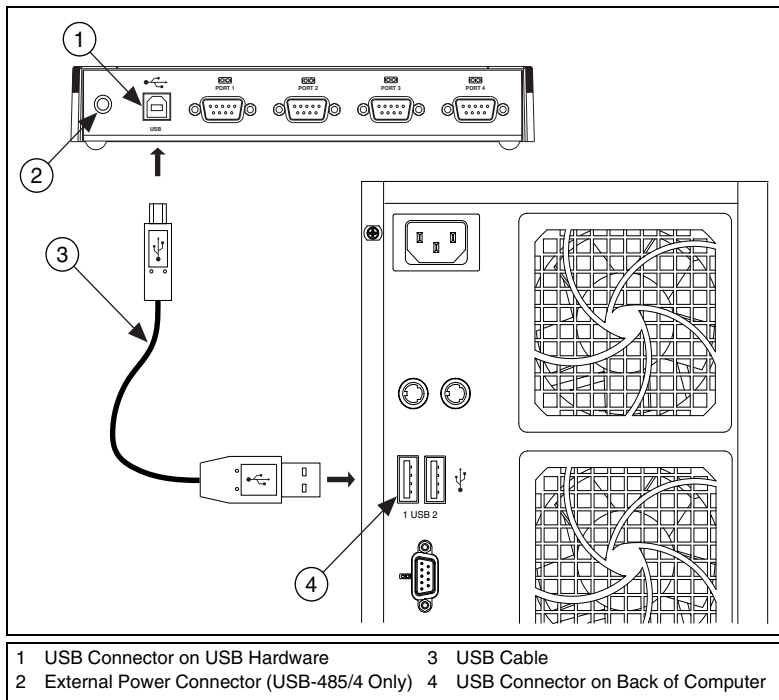

Figure 1. USB Serial Hardware Installation
3. Connect the USB connector from the USB hardware to an available USB port on your computer or USB hub, as shown in Figure 1.